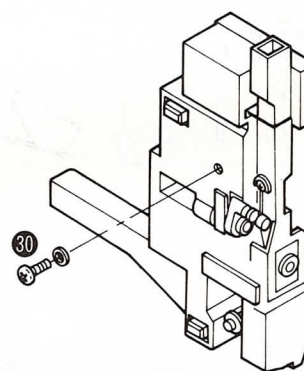

Fig. 17
4. Remove the cueing plunger setscrew (Fig. 17: 30), then the cueing plunger can be removed.